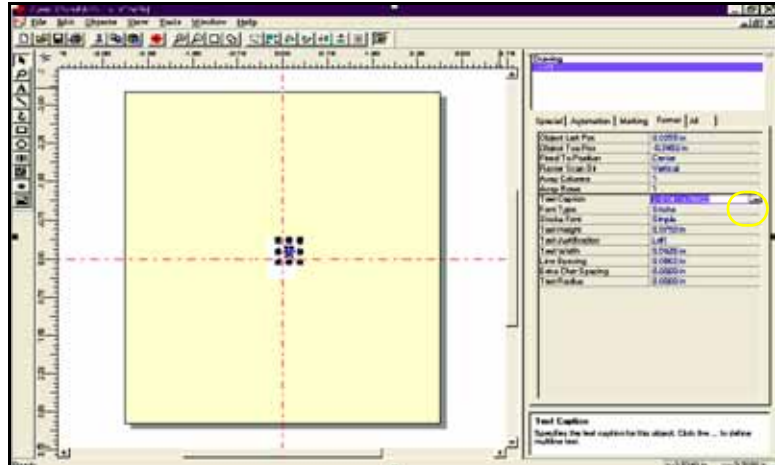

Figure 3-54: The Text Caption drop-down field on the Format tab.
- 2a. Click the Format tab, then click the text-box drop-down at the Text Caption field. See Figure 3-54.